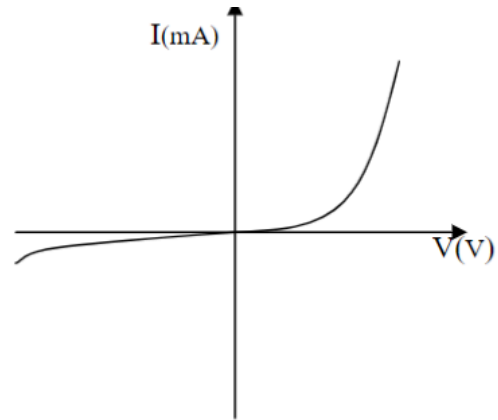

Fig.4 I-V curve of a diode
- **Non-ohmic conductors** (e.g., diodes) have non-straight I-V curves (Fig. 4), where V/I is not constant, violating Ohm's Law.